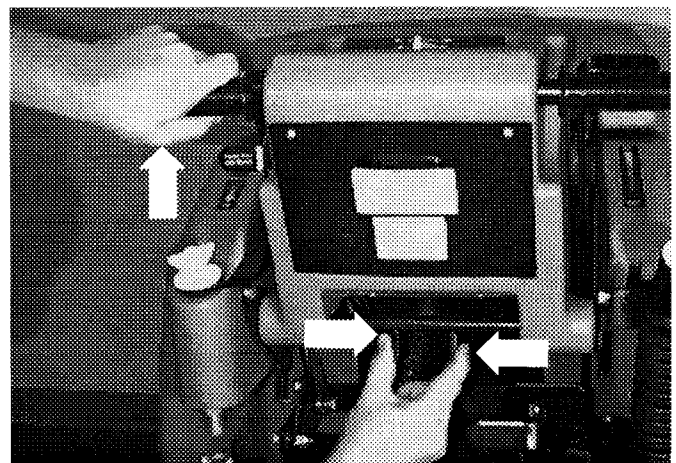

FIG. 11
- Adjust control grips to a comfortable operating height (three settings). Squeeze two levers together, located under control console, to raise and lower control grips. (Figure 11)